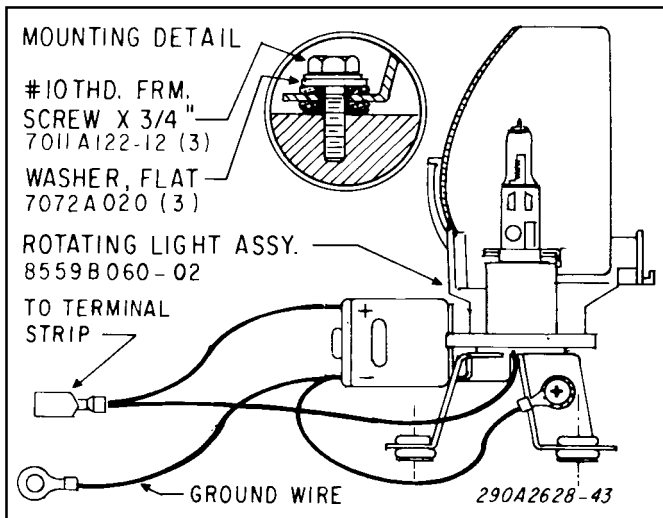

Figure 4.
b. See figure 4. Secure the assembly in position using three #10 x 3/4" hex head thread-forming screws and three flat washers. Torque the screws to 30 - 55 in-lbs.